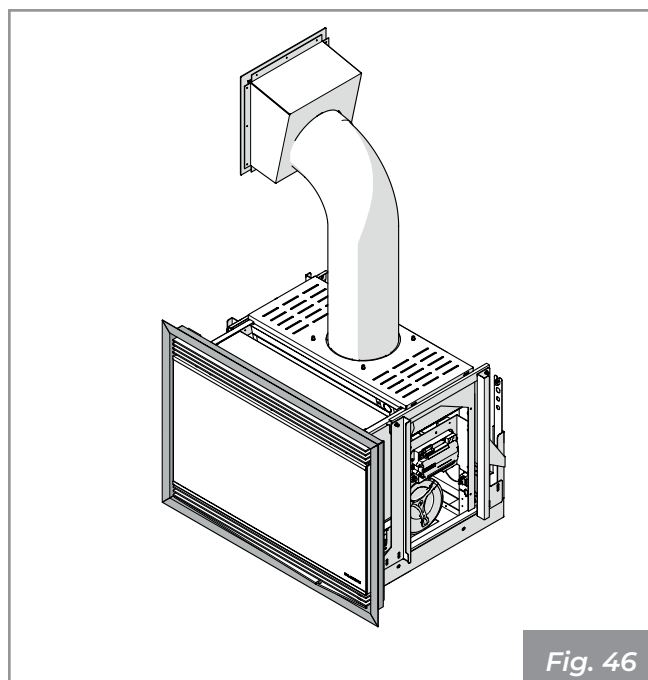

Fig. 46
- Finishing frames for plasterboard (Fig. 46).